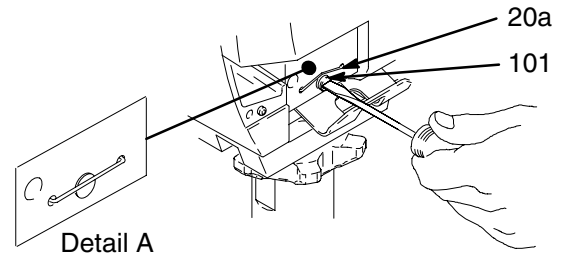

Fig. 17
If pin works loose, parts could break off due to force of pumping action. Parts could project through the air and result in serious injury or property damage. Make sure pin (101) and retaining clip (20a) are properly installed. See Detail A, Fig. 17.
5. Fig. 17. Use screwdriver to push out pump pin (101).
2. Fig. 17. See Detail A. Push pin (101) into hole until retaining clip (20a) snaps over pin.
1. Remove pump (28).
2. Remove two bolts (86), washers (25), pump bracket (85), pail hook (94) and shield (95).
3. Fig. 17. Remove clip (230).
1. Fig. 17. Install clip (230).
2. Install shield (95), pail hook (94) and pump bracket (85) with two washers (25) and bolts (86). Torque bolts to 40 ft-lb (54 N•m).
3. Install pump (28).